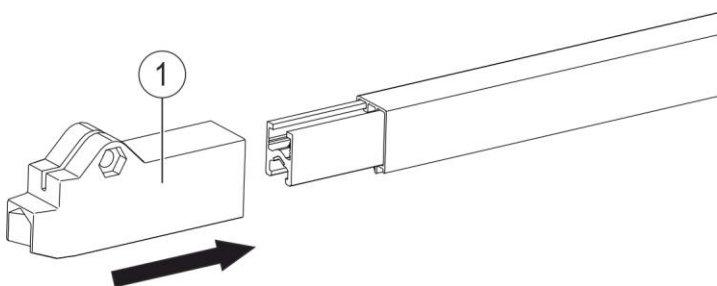
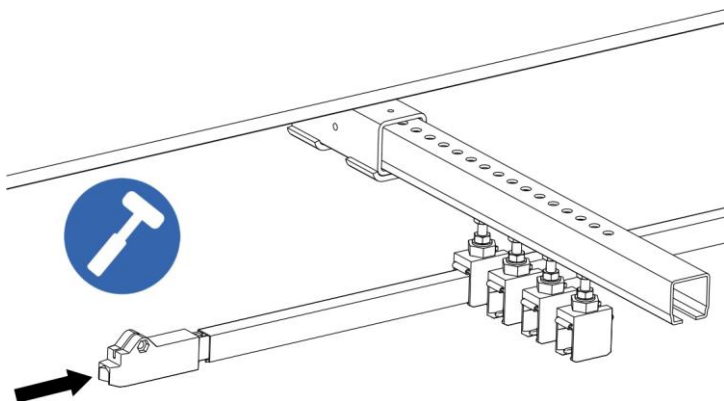

Fig. 103: Slide the end cap onto the end of the conductor rail
Fig. 104: Tap the end cap onto the end of the conductor rail
- Tap the end cap (Pos. 1) onto the end of the conductor rail with careful and light mallet taps (see Fig. 103, Fig. 104 and Fig. 105).